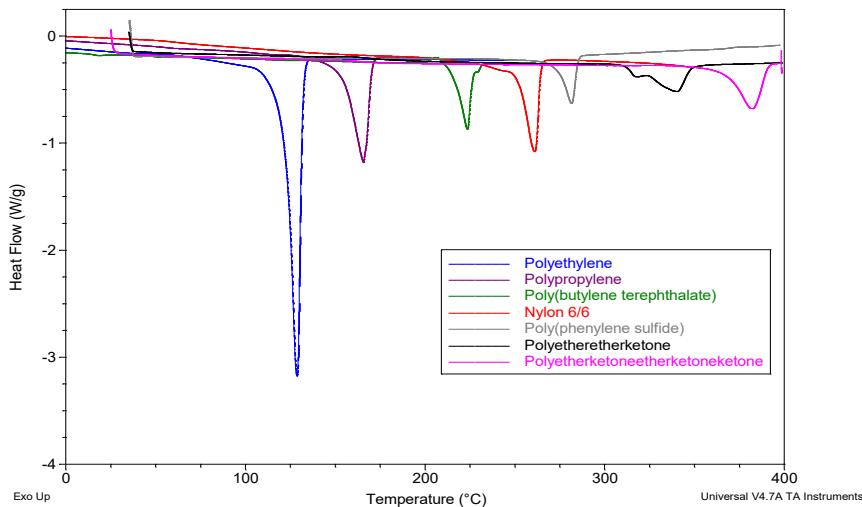
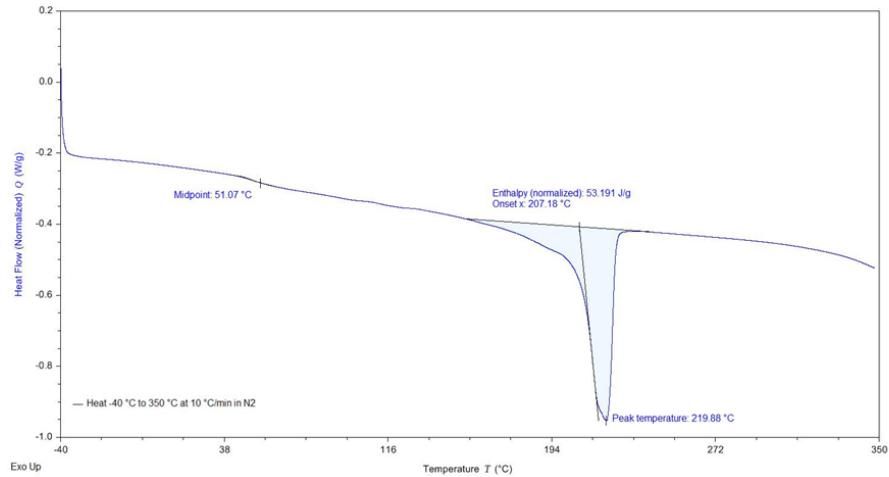

Figure 3 – DSC analysis showing the differences in melting temperature of various semi-crystalline materials.
Figure 4 – DSC results from the material in Figure 2, showing a glass transition and melting temperature characteristic of polyamide 6.
The second test method to obtain a tier 1 characterization is typically differential scanning calorimetry (DSC). This analysis technique subjects the material to heat at a known rate and measures the change in heat flow for identification. The results provide information on the glass transition temperature and the melting temperature, which helps an analyst determine material characteristics such as if it is a blend, homopolymer/copolymer, or the specific subset within a polymer family, Figure 3. A good example of the necessity of this technique is polyamide materials, which have many designations such as polyamide (6), (6,6), (12) and several others, Figure 4. These designations identify the chemical structure, which plays a larger role in the physical and thermal properties. Additionally, identifying this sub-group is important to distinguish your material from the copious possibilities within the polyamide family.